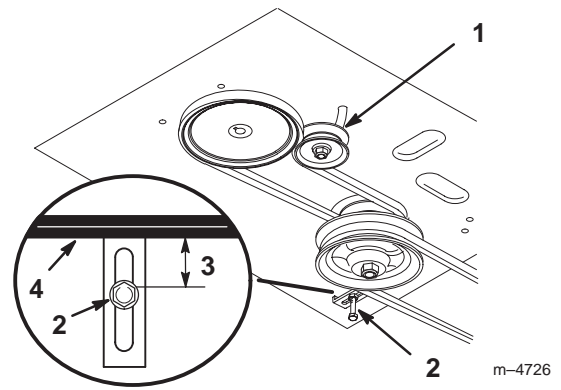

Figure 46
5. Install new belt around engine and drive pulleys (Fig. 46).
6. Slide idler pulley in engine frame to tension traction belt (Fig. 46).
8. Check the belt guide under the engine frame for proper adjustment (Fig. 46). The distance between the belt guide and mower belt should be 1-3/8 in. (35mm). Adjust as necessary. The disengaged belt should not drag or fall off pulley when guides are properly adjusted.
- Check the belt guide under the engine frame for proper adjustment (Fig. 46). The distance between the belt guide and mower belt should be 1-3/8 in. (35mm). Adjust as necessary. The disengaged belt should not drag or fall off pulley when guides are properly adjusted.